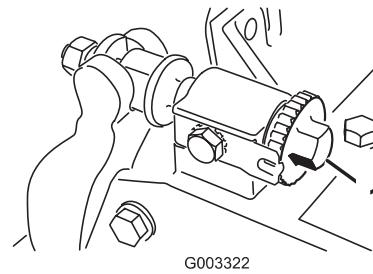

Figure 18
1. Loosen reel to bedknife contact by turning the bedknife adjusting knobs (Fig. 18) counter-clockwise until no contact exists.